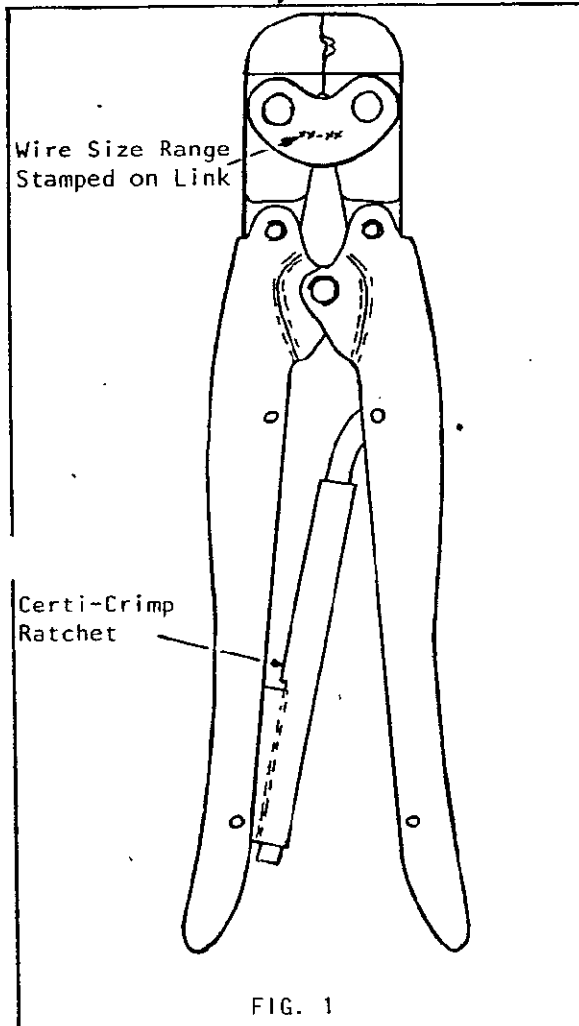

FIG. 1
1. The Tool, see Figure 1, covered by this Instruction Sheet is used to crimp AMP terminals 151315 & 151320. Tool 576801 is used for two wire application on terminal 151315.
- (c) Hold tool so that Link with wire size range stamped on it faces operator. See Fig 1.